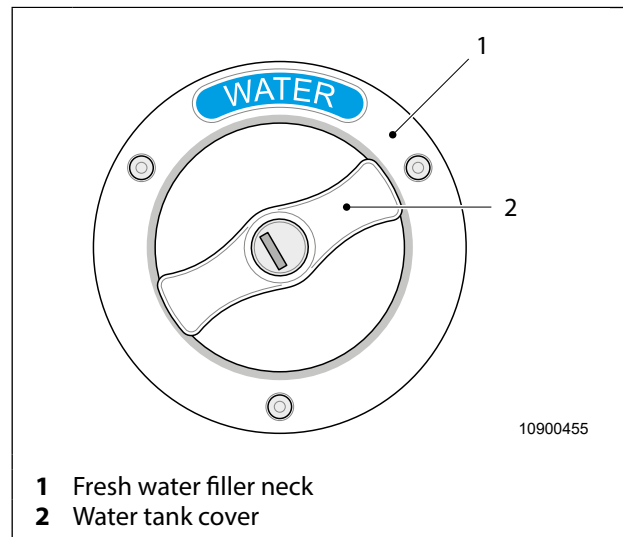

Fig. 48 Fresh water filler neck
The fresh water filler neck (Fig. 48, item 1) is located on an outer panel at the rear of the vehicle.
3. Unlock and open the water tank cover (Fig. 48, item 2).
5. Close water tank cover (Fig. 48, item 2).